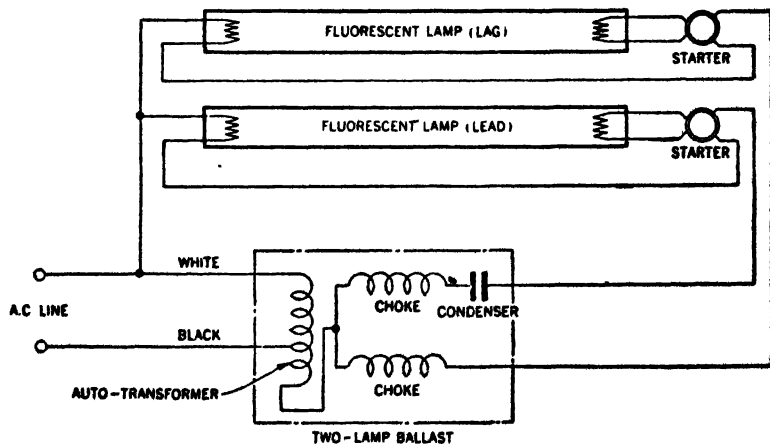

FIG. 5,225-26.—Wiring diagram of a two-lamp ballast with a four-contact starter socket for each lamp.
**Lampholders and Starter Sockets.**—These are usually available for lamps with miniature, medium and mogul bipin bases. Usually the starter is mounted separately so that it may readily be replaced without removing the lamp itself. A standard twist-turn type of lampholder is shown in fig. 5,225-28, while a starter and separate socket is shown in fig. 5,225-29.